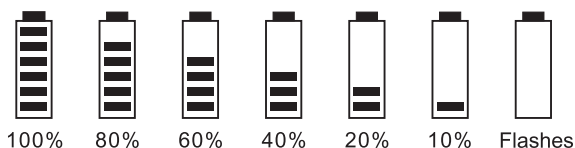

Fig. 12
V. Battery Level Status, Fig. 12
- (A) Built-in rechargeable lithium-polymer battery.
- (B) Up to 14 hours of operation when fully charged.
- (C) Fast-charge time: about 2.5 hours. (charges up to 80% of battery capacity)
- (D) Note: Rechargeable batteries have a limited number of charge cycles and may eventually need to be replaced. Battery life and number of charge cycles vary by use and settings.